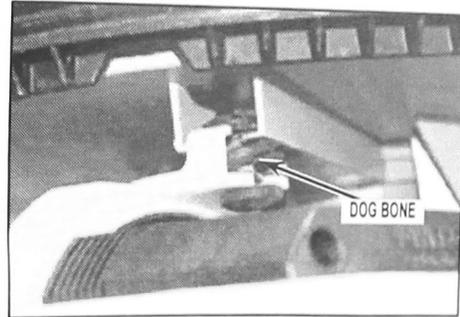

FIGURE 9
- e. Make sure the dog bone is present and it is fully engaged in the sump groove. See Figure 9.
- h. Reconfirm dog bone is present and fully engaged. See Figure 9.